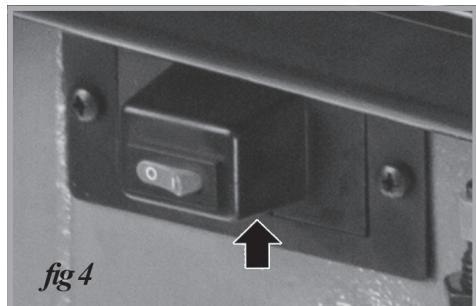

fig 4
2. Press the tab located below the laser switch (fig 4) and raise the cover.